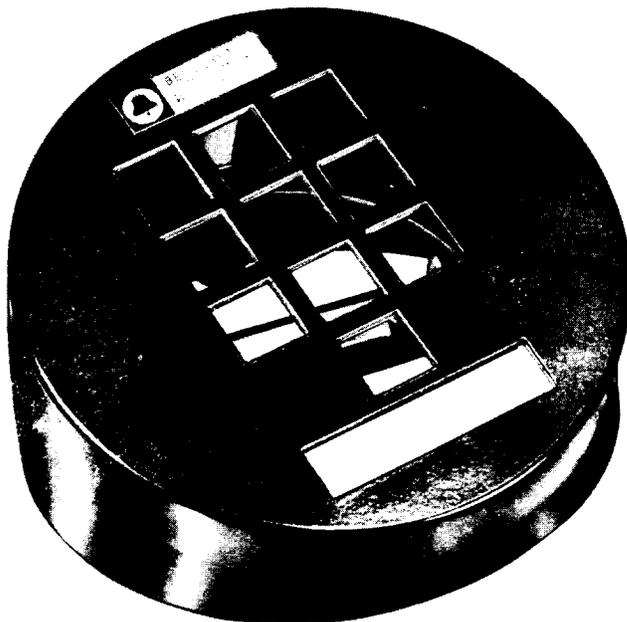

Fig. 5—51A Dial Mounting
**2.14** The 51A dial mounting (Fig. 5) is designed for mounting the 25B3 or the 10-button 25Y3 TOUCH-TONE dial. It consists of a plastic housing, adapter, and terminal block.